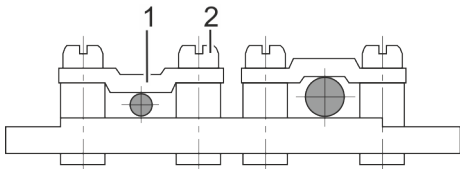

Fig. 11: Installing the strain relief clamps
20. For “eco Cl7”: Screw on the strain relief clamps (Fig. 11/1) using the screws provided (Fig. 11/2).